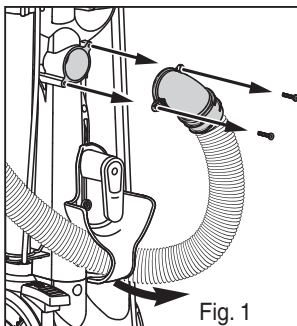

Fig. 1
- 1) Loosen lower end of hose and pull hose retainer out to remove hose. Flex hose to loosen any blockage. If still clogged, remove 2 screws and remove hose from vacuum back (Fig. 1). Reconnect hose at both ends.